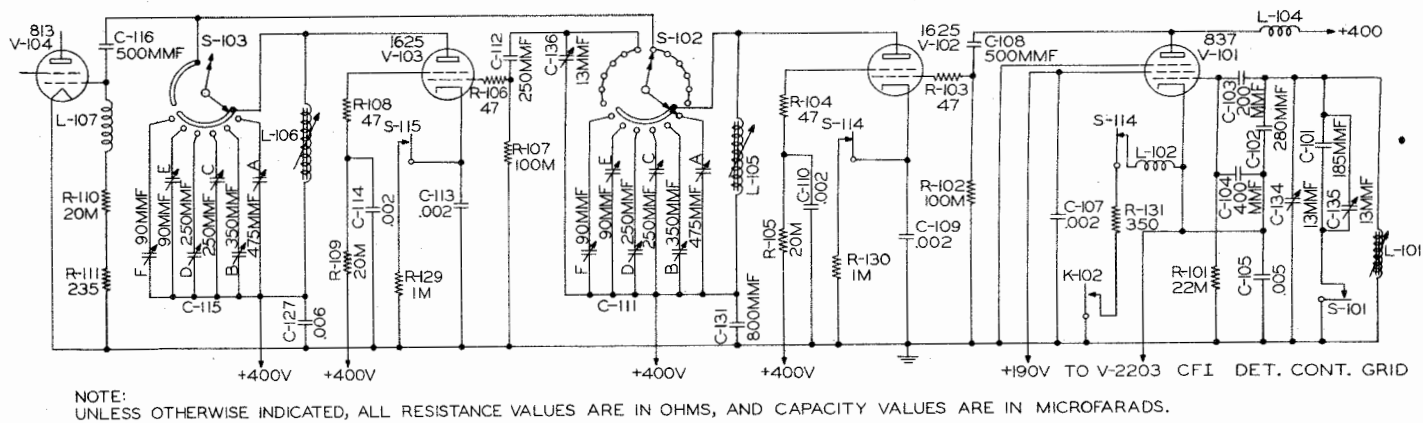

Figure 4-19 High Frequency Exciter Circuits
b. HIGH FREQUENCY EXCITER CIRCUITS. - The HF oscillator, figure 4-19, employs a beam pentode Type 837 tube, V-101, in a variable frequency oscillator circuit. The oscillator operates within the frequency range 1000 kc to 1510 kc. This frequency range is covered in two bands, 1000 kc to 1200 kc, and 1200 kc to 1510 kc. The band of frequencies within which output is obtained, is dependent on the position of HF oscillator range switch S-101. Capacitors C-101 and C-135 are connected in the grid circuit of the HF oscillator tube, V-101, by HF oscillator range switch S-101 which is operated by Control "A". Alternate positions of Control "A" add or remove the padding capacitors C-101 and C-135. With Control "A" in the 2.0 mc to 2.4 mc position HF oscillator range switch S-101 is closed, giving the maximum grid circuit capacitance and consequently the lowest frequency output. Therefore, when Control "A" is in the 2.0 mc to 2.4 mc position, oscillator output is obtained in the frequency range 1000 kc to 1200 kc. When Control "A" is rotated to the 2.4 mc to 3.0 mc position, HF oscillator range switch S-101 is opened, removing capacitors C-101 and C-135 from the circuit, and oscillator output is obtained in the frequency range